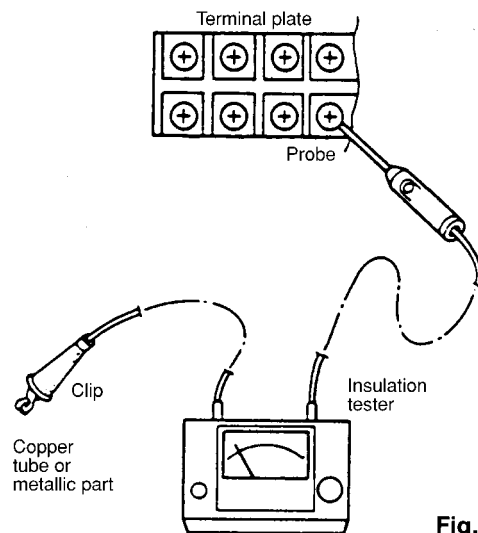

Fig. 2
Clamp an aluminium plate fin or copper tube with the lead clip of the insulation resistance tester and measure the resistance by placing a probe on ①, and then ② on the terminal plate (Fig. 2).
Clamp a metallic part of the unit with the lead clip of the insulation resistance tester and measure the resistance by placing a probe on ①, and then ② on the terminal plate (Fig. 2).